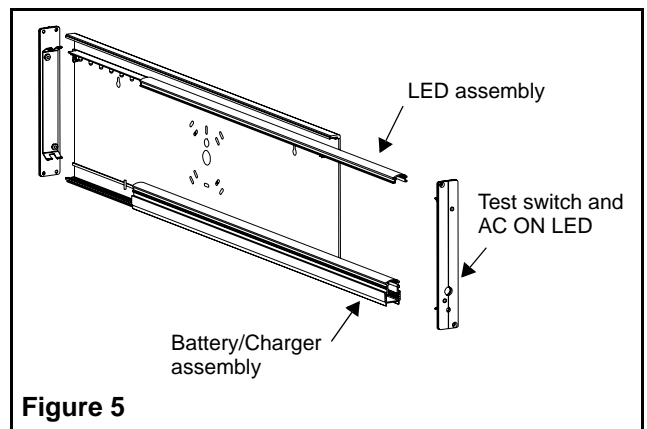

Figure 5
1. Take off the end caps by removing the 2 end caps screws (only one end cap for end mounted signs). See fig. 5.
Press test switch (see fig. 5). Legend will flicker, but remain lit, AC pilot lamp will extinguish. On release, pilot lamp will illuminate, and automatic charger will restore battery to full charge.